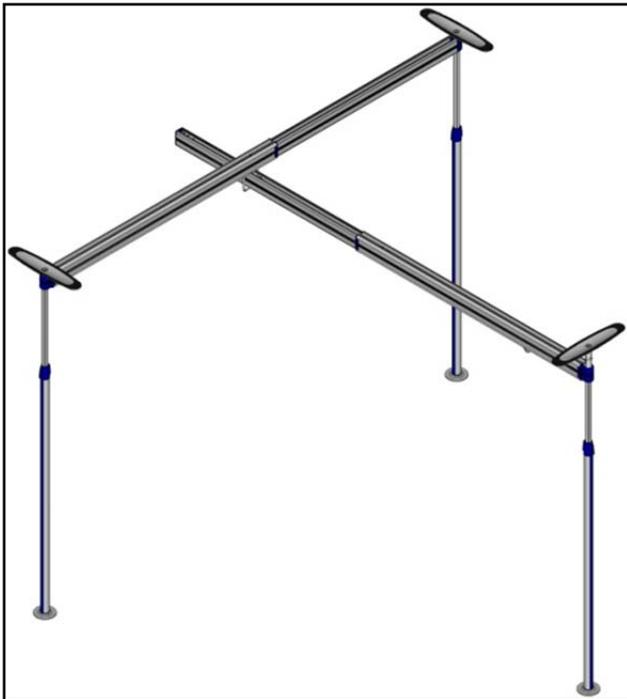

Figure 42
27. See Figure 42 for photo of assembled 3-Post Easytrack System.
- Check your installation against Figure 42.